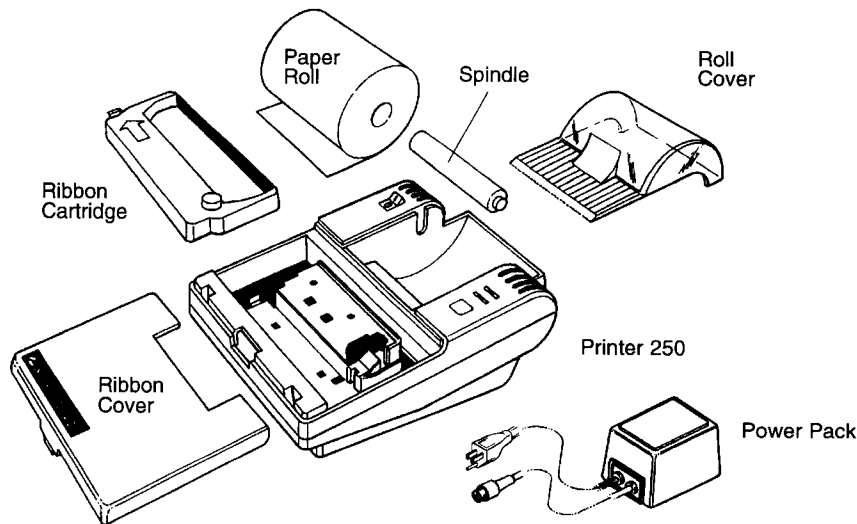

Figure B-2. Printer 250 Components
1. With the shipping carton right side up, open the carton's lid and remove its contents. You should have the components shown in Figure B-2.